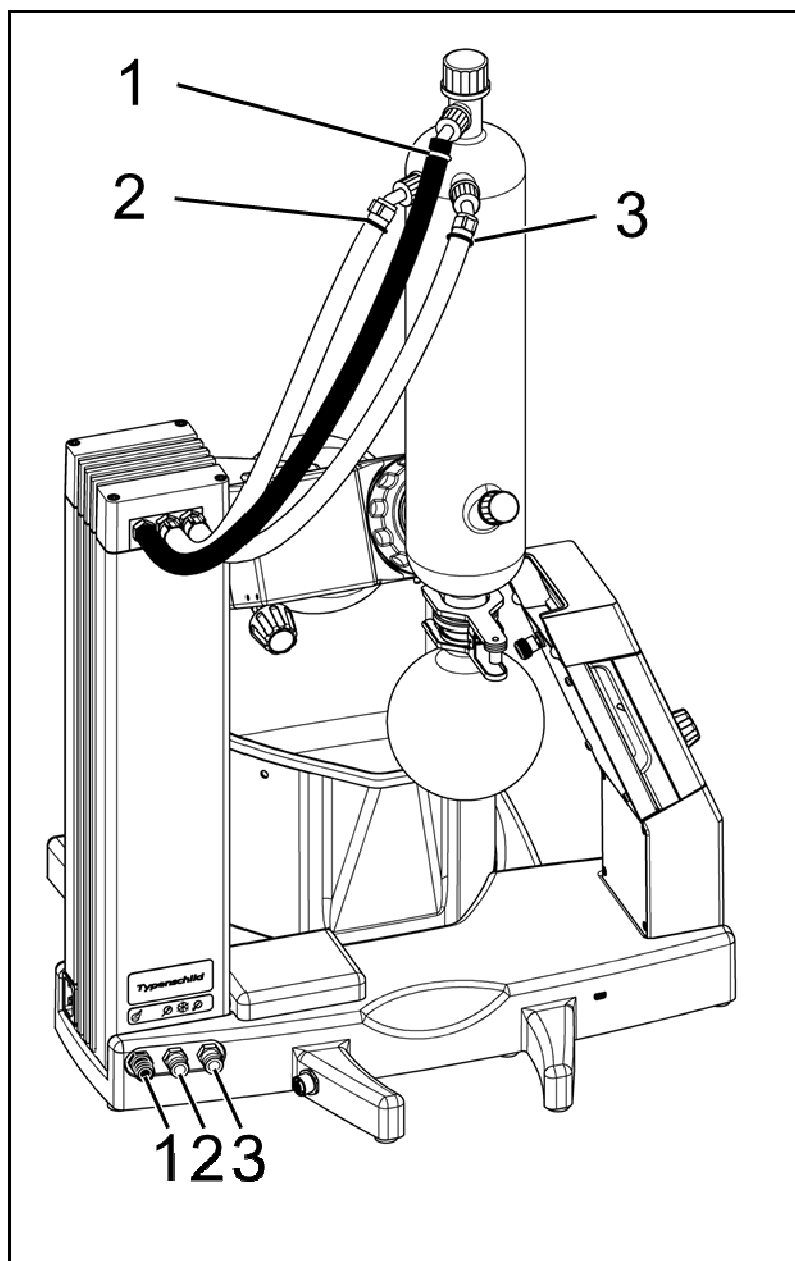

Fig. 5: Attaching lines for coolant and vacuum
4. Attach tubing (Fig. 5/1 and 2) or fill the cold trap with dry ice.
i The hoses and connections are color-coded to simplify assignment (see Legend in Fig. 5).
i Connect the vacuum lines only to the left side of the tower (see Fig. 5). The internal connection here has elevated chemical resistance (see Chapter 4, *Technical data*).